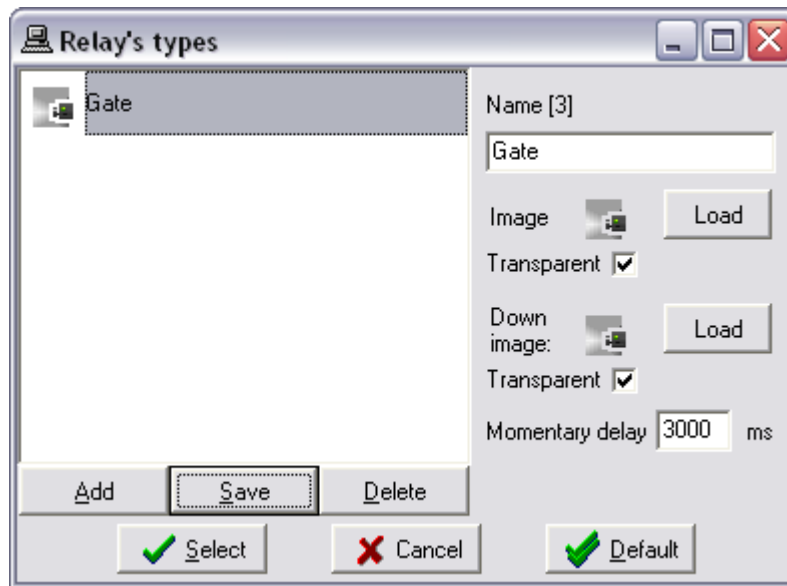

Fig 55. NVR Control Center — Cameras Settings — Outputs
1. In the **Relay Types** click the **Add** button to add a new relay action button (Fig 55).